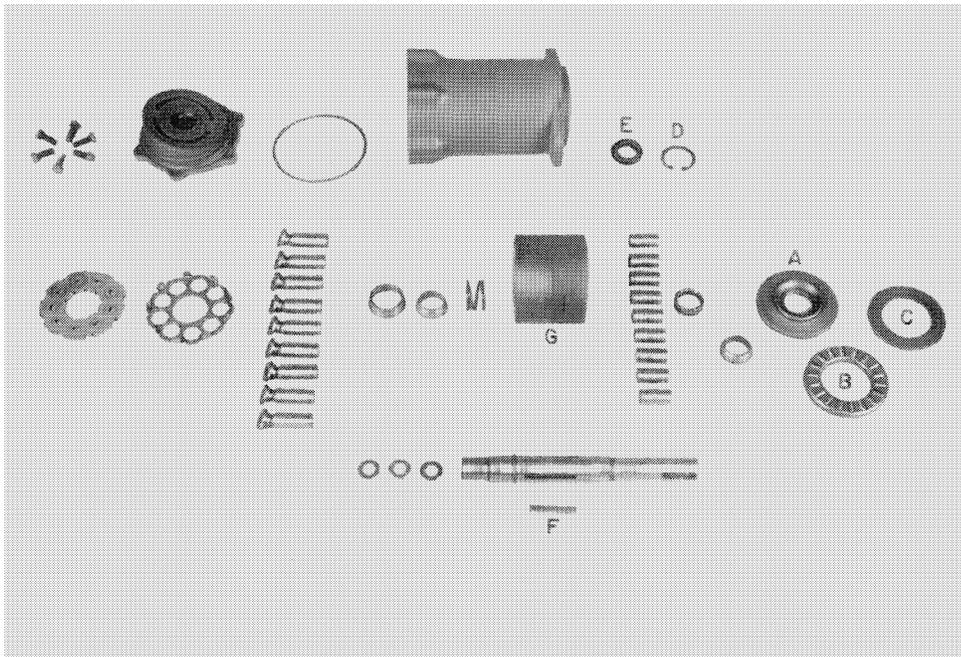

FIGURE 29
12. Remove piston race assembly, A, thrust bearing, B, and thrust washer, C, Figure 29. Remove retaining ring, D, and seal, E, from housing.
1. Install snap ring on shaft if it was removed and install key, F, Figure 29.
2. Slide piston block, G, Figure 29, on shaft with bore chamfer toward snap ring.
5. Position housing with open end up. Lubricate thrust washer, C, Figure 29, and install in housing.
6. Slide piston race assembly, A, and thrust bearing, B, Figure 29, on shaft.
12. Remove assembly from vise and install new shaft seal, E, Figure 29. Install retaining ring, D.